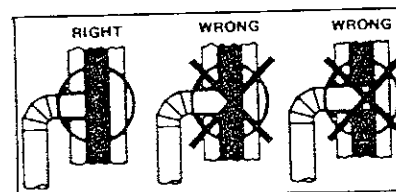

FIG. 11
4. The pipe cannot extend into the chimney flue (Fig. 11).